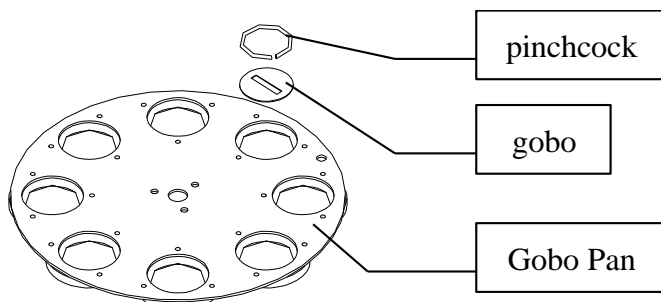

Fig. 9
5. Very carefully take the pinchcock (fig 9 and 10) out of the gobo wheel, but pay attention that the pinchcock does not fall in the device. Then push the gobo out.